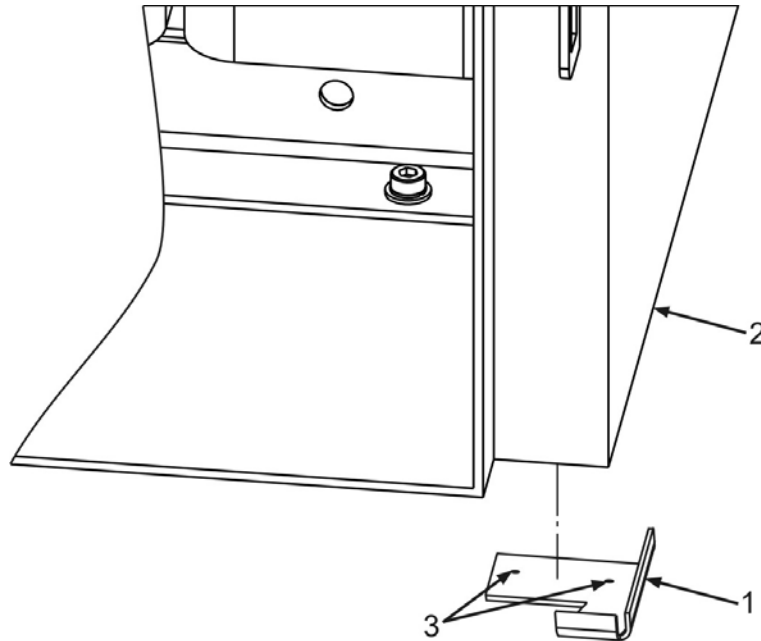

Figure 12. K1 Relay Locating Tool.
(1) In the power box, mount the K1 relay and socket (retained from removal) as follows:
- (a) Position 182K1671 locating tool (Figure 12, Item 1) underneath lower right corner of the power box (Figure 12, Item 2).
- (b) Use locating tool as a template to mark the location of the relay socket two mounting holes (Figure 12, Item 3), one for each side of the socket.